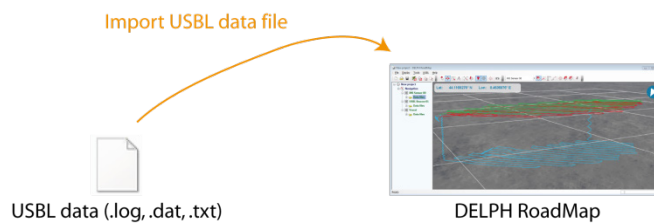

Figure 43 – Visualization of USBL data in offline mode
- Offline mode: the data is directly imported in DELPH RoadMap and all at once displayed in the main graphic area. See Figure 43.